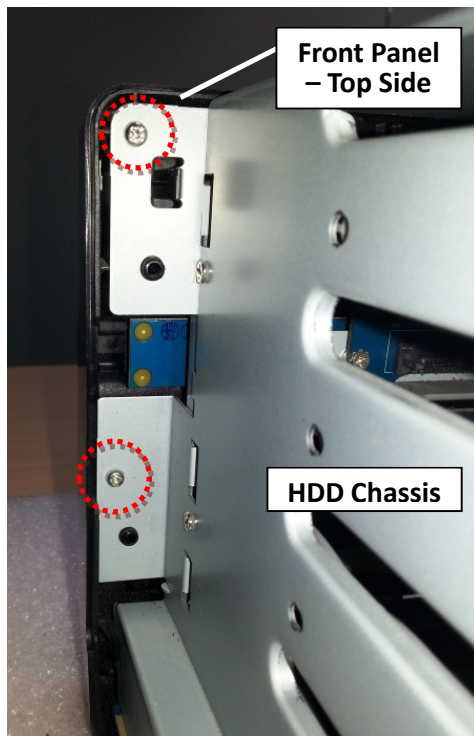
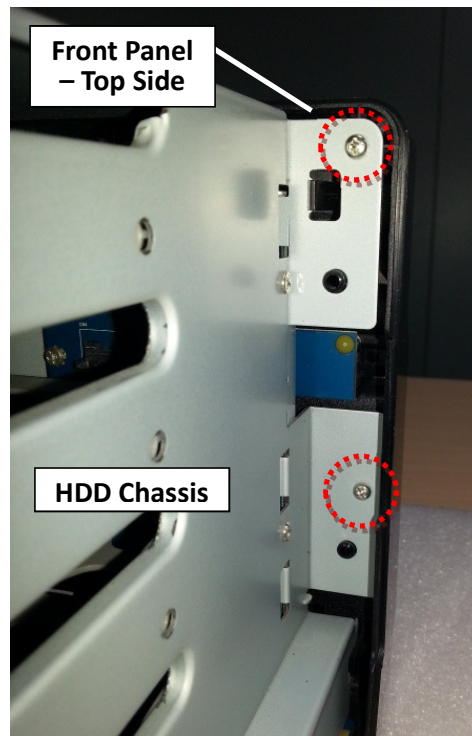

Fig. 75 – Right Side
Fig. 76 – Left Side
3.2.5 Fix the two (2) screws on each side of the front panel interior (Marked by the red circles). (Fig. 75 for the right side and Fig. 76 the left side)